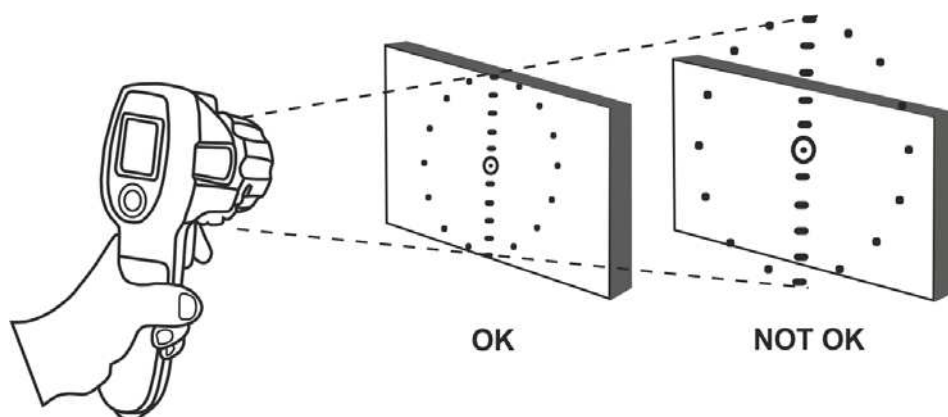

Fig. 17: Correct measuring conditions
- Make sure that the target whose temperature is to be measured is at least as large as the unit's spot (see Fig. 17). The smaller the object is, the closer you should be to it. **When accuracy is critical, make sure the object is at least twice as large as the spot size.** To find a "Hot Spot", aim the thermometer at the measured object, then move the instrument across the object until a hot spot is located.